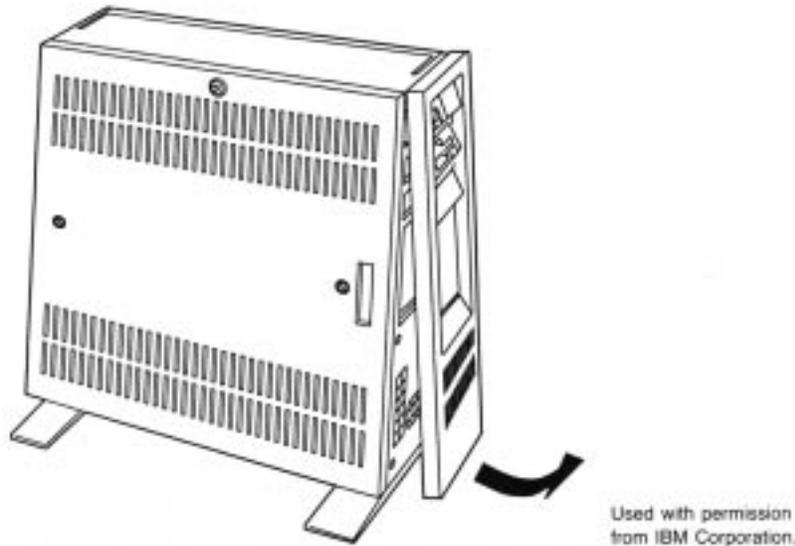

Fig. 3.39
2. Pull out (see fig. 3.39). The bezel should snap off freely.